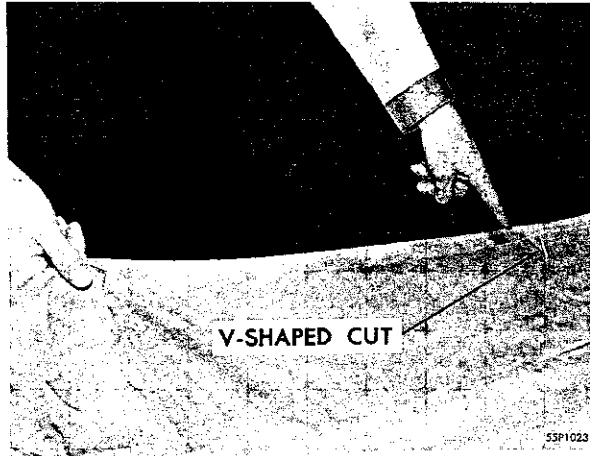

Fig. 42—Marking the Center of Headlining with "V" Cuts
(2) Notch the headlining at the front and rear ends to indicate the center of the material by making small V-shaped cuts, as shown in Figure 42. Use these marks as guides to properly center the headlining.